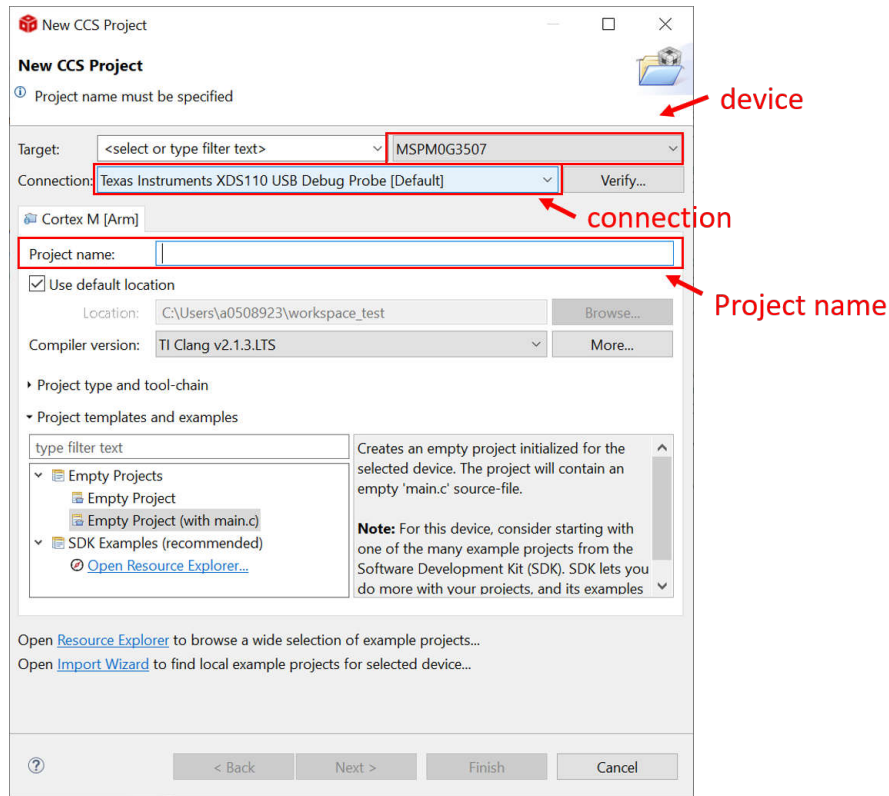

Figure 2-18. Create a New Project in CCS
- If users want to create a new project, then go to file--> new-->CCS project. There are two important items that need to be done. The first one is to choose MSPM0 device and the other one is to choose the connection, as shown in Figure 2-18. Then, the program can be created after project name is added and press finish button. TI recommends to find the MSPM0 SDK example, which introduces how to use CCS in Section 2.2.4.